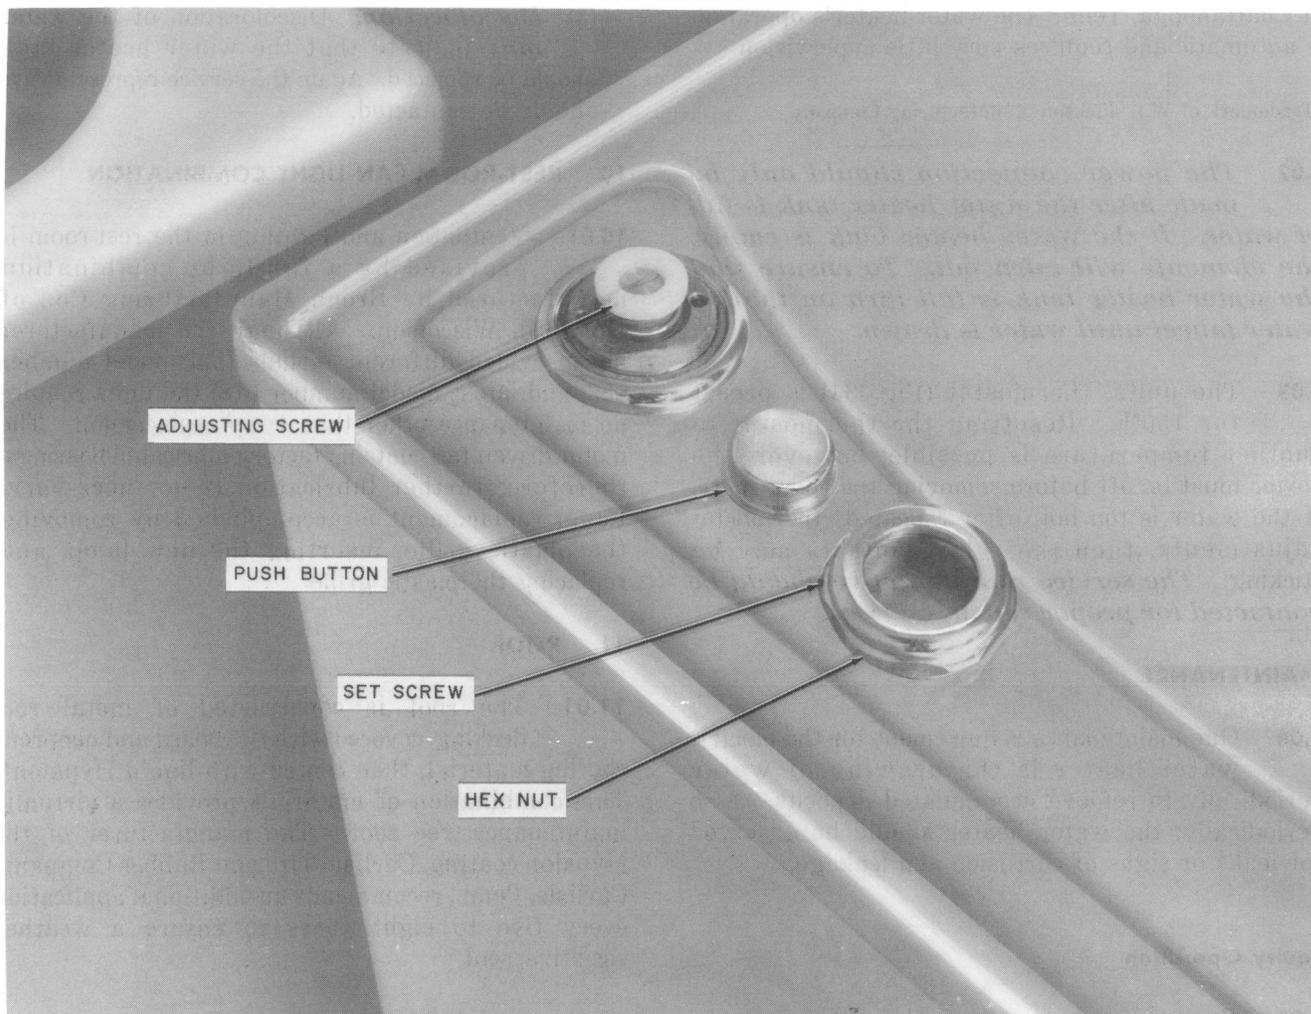

Fig. 31—Elkay Refrigerated Water Cooler Stream Adjustment
8.05 To adjust the stream height, remove the set screw (Fig. 31) holding the hex nut in place. Then remove the hex nut and pushbutton to gain access to the stream height adjusting screw. To raise the stream height, turn the screw to the right (clockwise). To lower the stream height, turn the screw to the left (counterclockwise). The water stream should crest at the drinking point approximately 1/2 inch above the mouth guard.